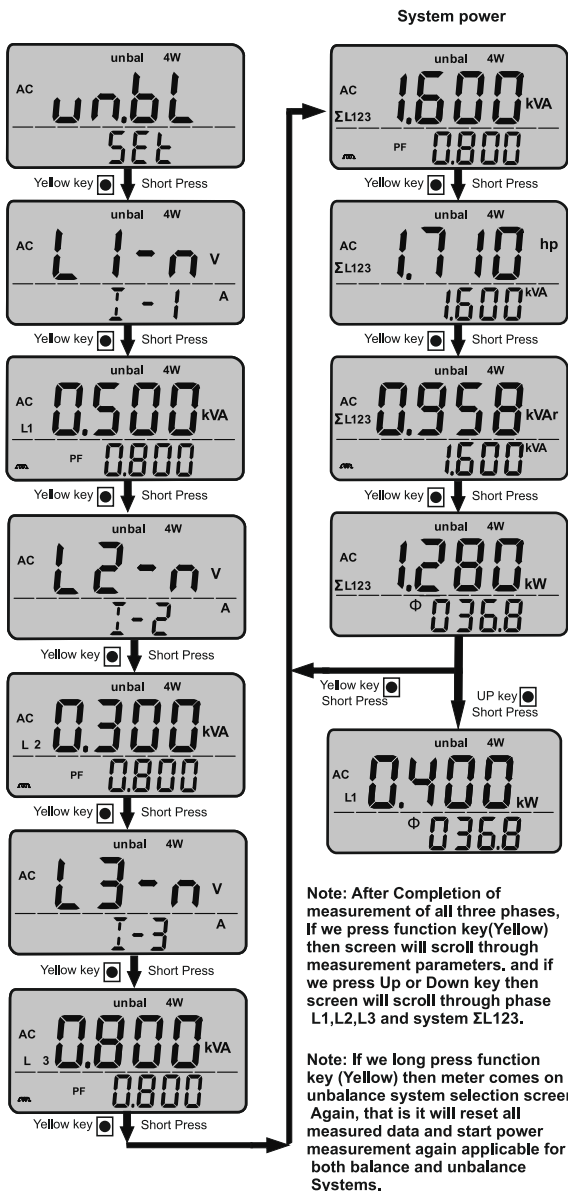

Fig 11.1.1 Power measurement 3-phase 4-wire Unbalanced load
- 7) Measure data includes Active , Reactive Apparent Powe, Power Factor, Phase angle, horse power , voltage, Current. All these parameters are measured for individual phase and for system also. After step 6 if we press function (Yellow) key then we can scroll through all above measured parameter one by one .And if we press Up or Down key we can see measured data for individual phases (L1 or L2 or L3) and for system (Σ L123). Refer Fig 11.1.1